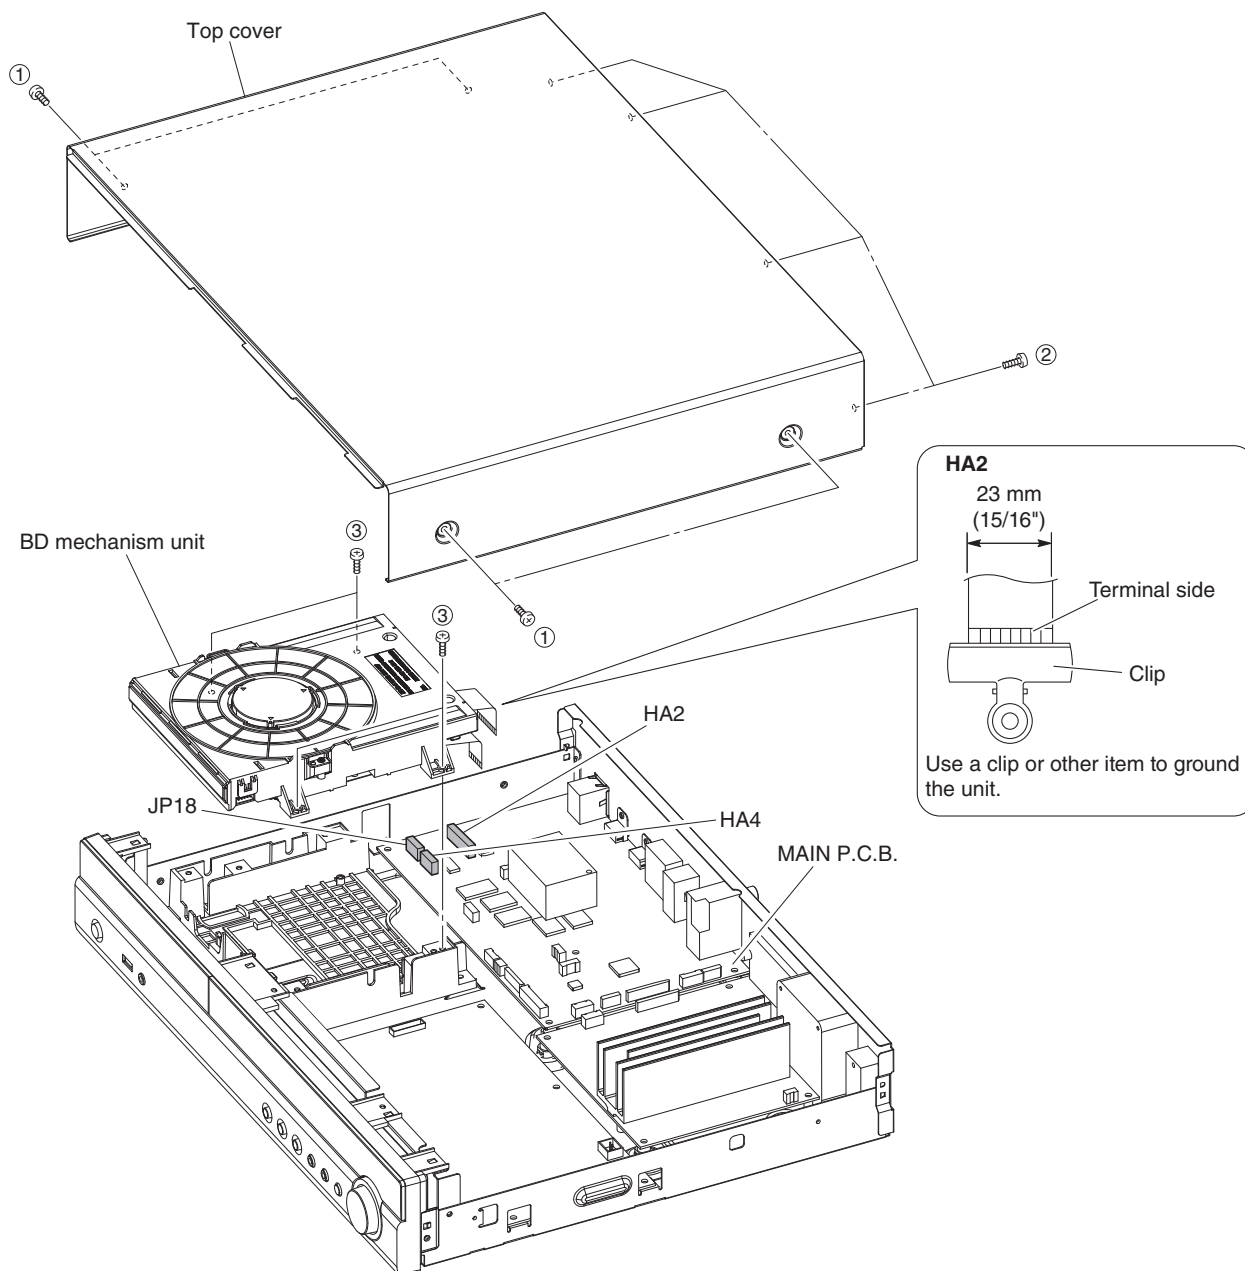

Fig. 1
- Remove the top cover. (Fig. 1)
- Remove 4 screws (③). (Fig. 1)
- Lift the BD mechanism unit. (Fig. 1)
- Remove HA4 and JP18. (Fig. 1)
- Remove the BD mechanism unit. (Fig. 1)